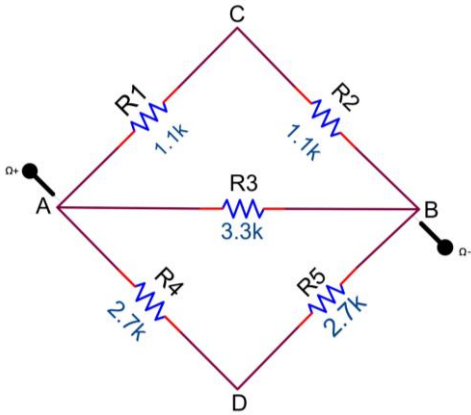
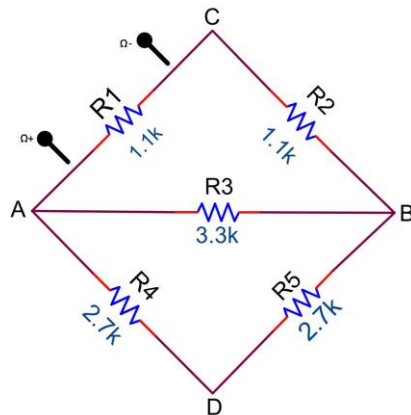
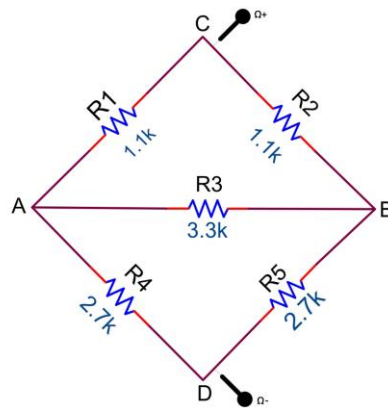

Figure 3.7
Figure 3.8
Figure 3.9
1. Measure and record R_{ab} (Figure 3.7), R_{ac} (Figure 3.8), and R_{cd} (Figure 3.9).